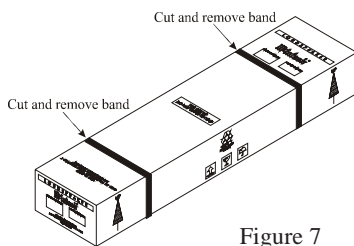

Figure 7
17. Remove the banding material from the shipping carton. Refer to figure 7.